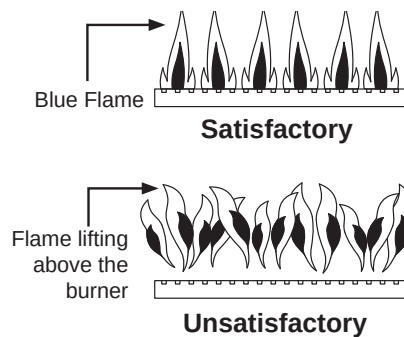

Figure 48 - Check Burner Flames
- Visually check the burner flames through the burner window (sight glass) on the burner assembly. The burner assembly is located in the middle of the water heater. A properly operating burner should produce clear, blue, stable flames. The flames should not be lifting above the burner. Contaminated air may cause a discolored flame. Contact a qualified technician if the flame is not satisfactory. See Figure 48 below for burner flame reference.